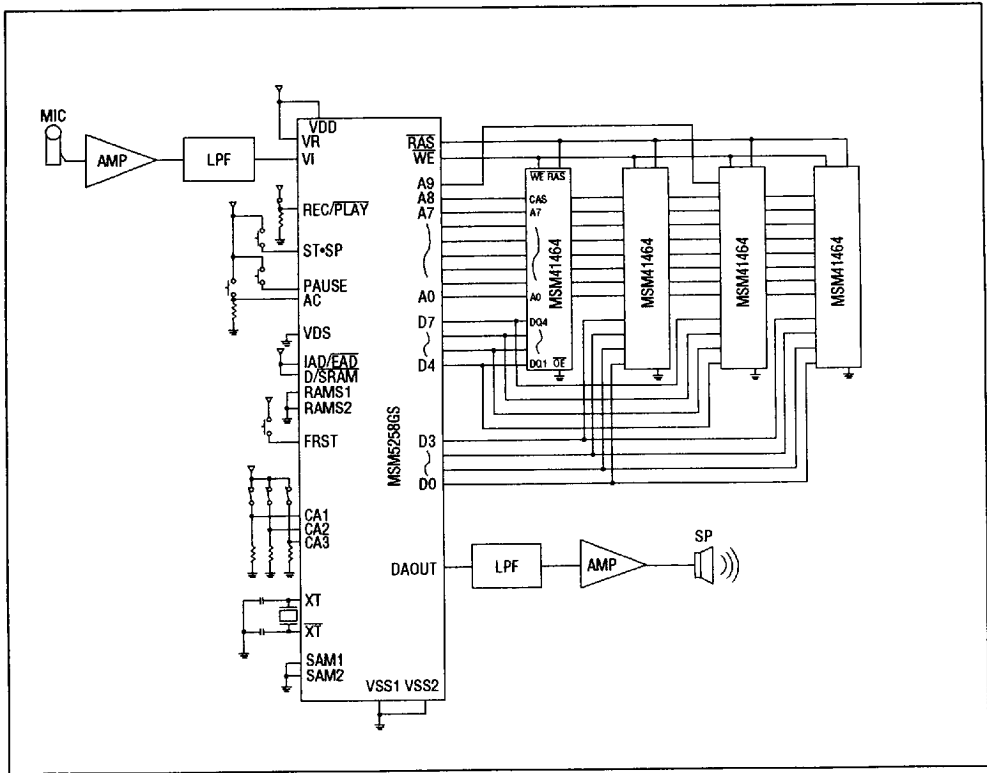

Figure 26 Application Note for 256K DRAM
- Figure 26 shows an example of interface with 256K DRAM.